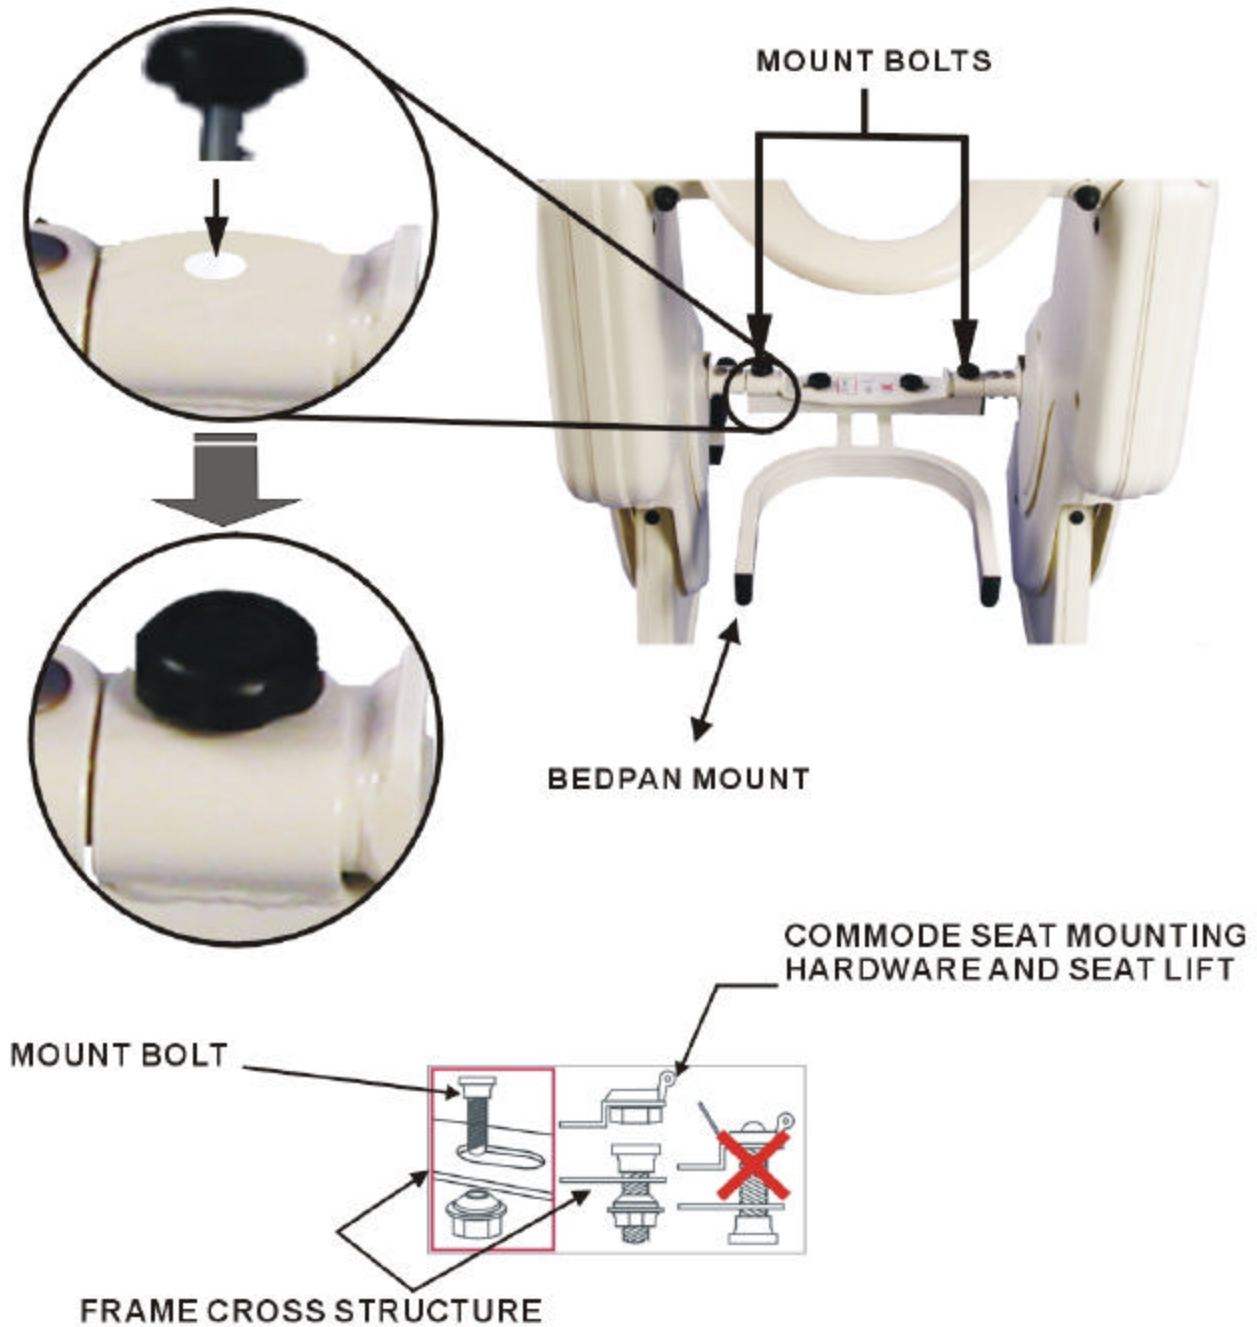

Figure M-6. Bedpan Mount
- c. Remove the two mount bolts, and remove the bedpan mount from the frame as shown in Figure M-6.
- a. Place the bedpan mount into the mounting position on the frame, and secure the mount to the frame with the two mount bolts as shown in Figure M-6.